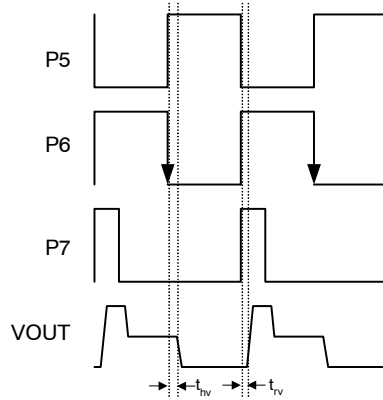
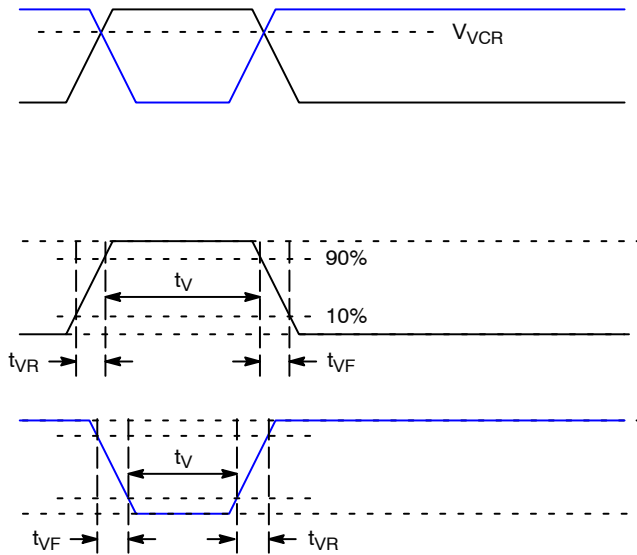

Figure 23. Pixel Timing Detail
Figure 25. VCCD Clock Edge Alignment
1. Refer to timing diagrams as shown in Figure 21, Figure 22, Figure 23, Figure 24 and Figure 25.
2. Refer to Figure 25: VCCD Clock Edge Alignment.